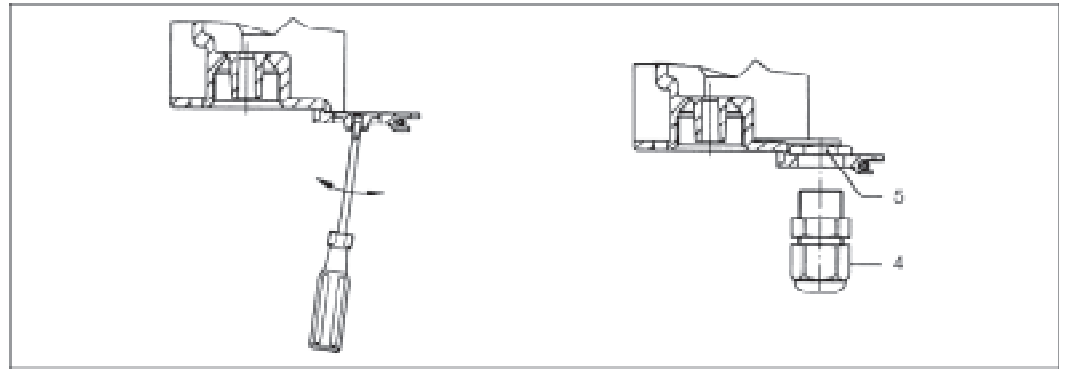

Figure 4: Cable inserts on front row
- ▶ Then attach cables on the front row: (see fig. 4)